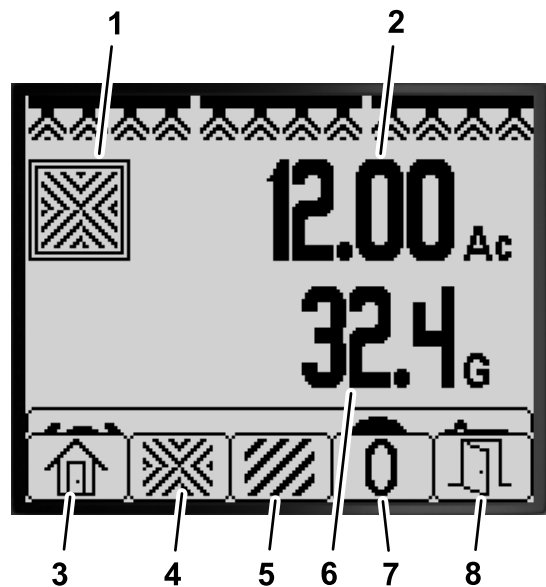

Figure 76
1. From the Home screen, momentarily press and hold any button to open the menu bar (Figure 75 and Figure 76).
2. Press button 2 for the Total Area screen (Figure 76).
3. Use the InfoCenter buttons (Figure 76) to perform the following actions: